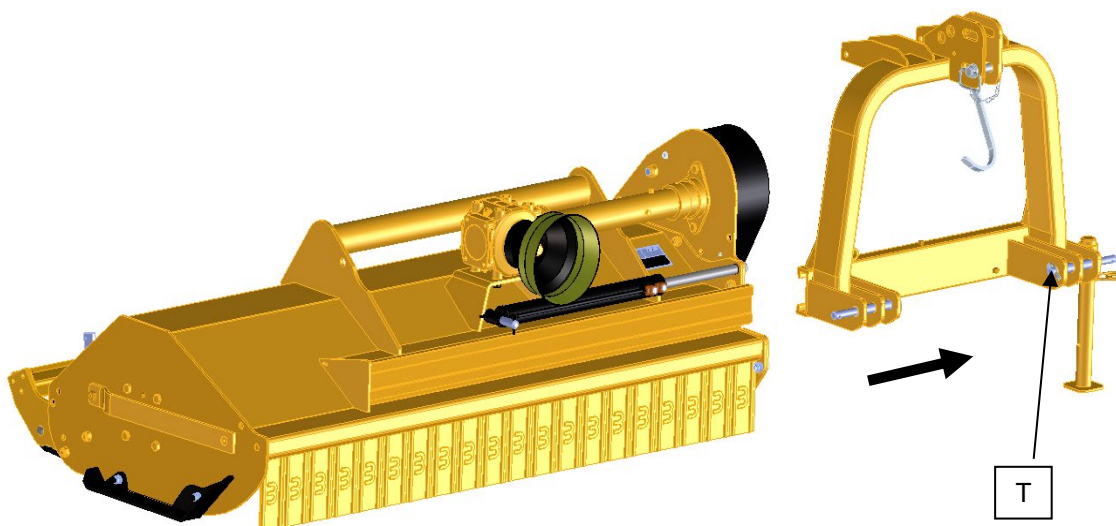

Figure 52
4. Remove the tiller T from the machine (figure 52);